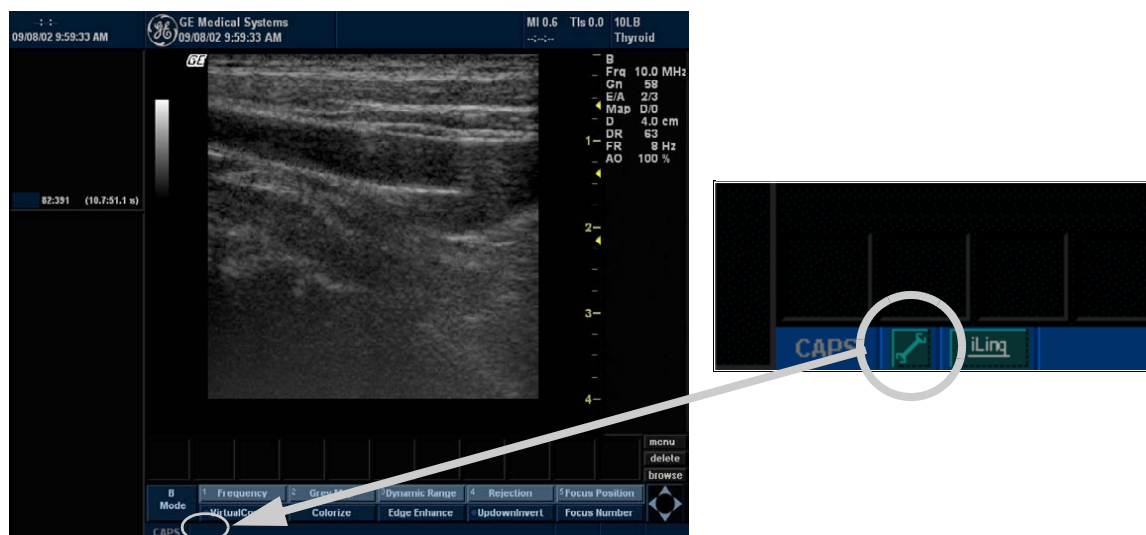

Figure 8-92 Wrench Icon
- 12.) If you didn't remove the CD, don't worry you will get a dialog box as in Figure 8-92.